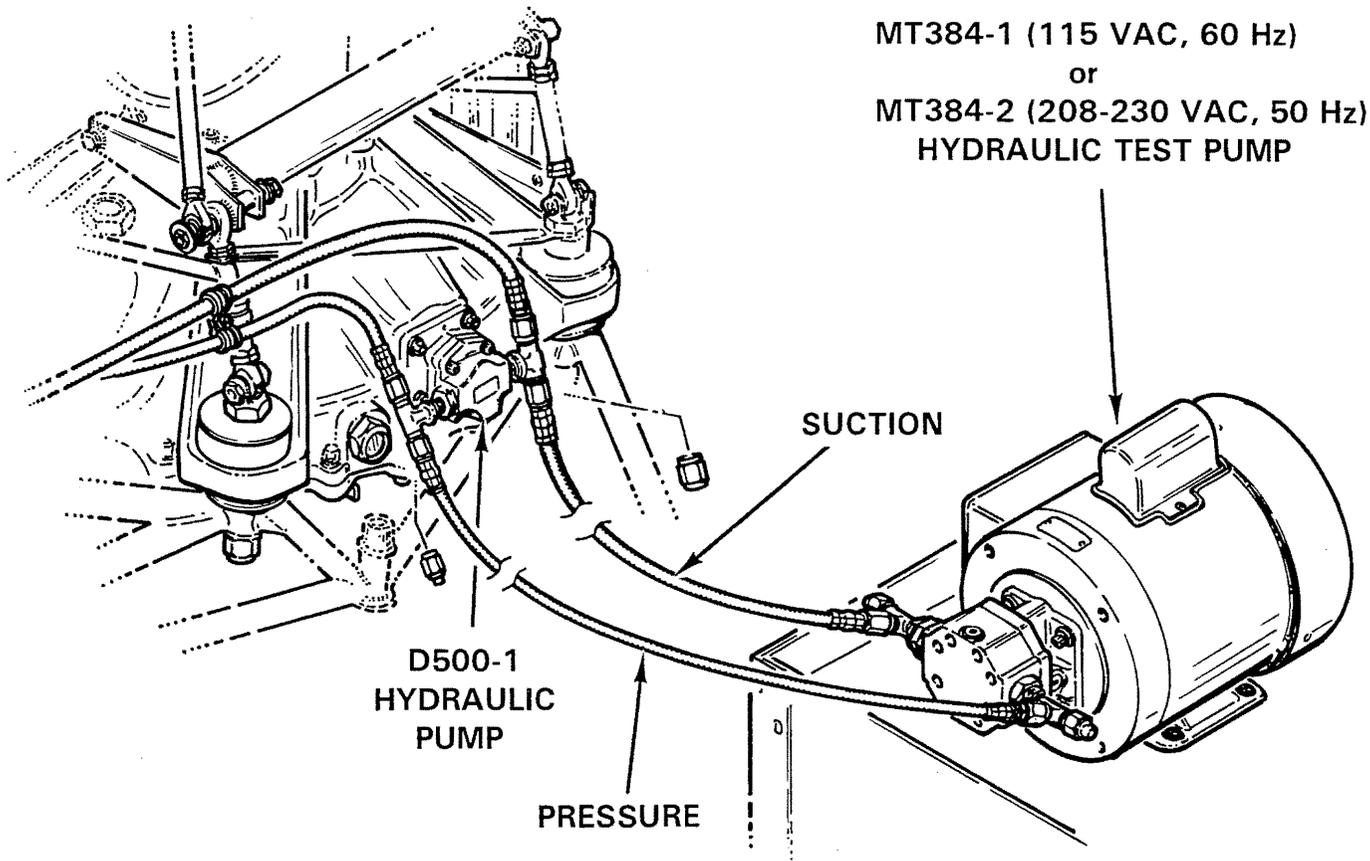

FIGURE 1-2A
4. See Figure 1-2A. Connect MT384 (or similar) 0.8-1.2 gpm hydraulic test pump to T-fittings on D500-1 pump. Fittings are different sizes to ensure correct connection.
1.190 Bleeding Hydraulic System (see Figure 1-2A)